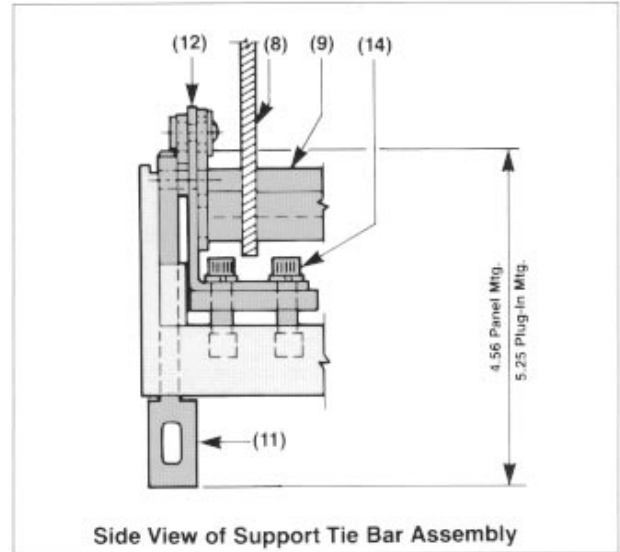
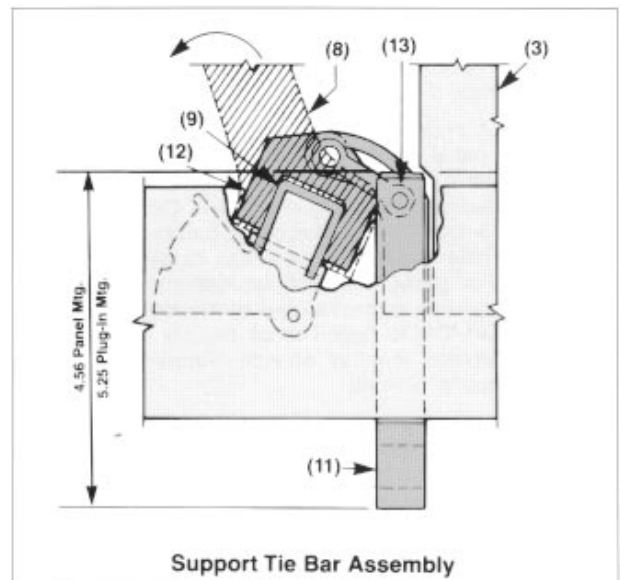

Figure 2
Figure 3
- A. With 9-in. long tie bar wrench (8) supplied (Figures 2 and 3) positioned around left pole tie bar connector (9), pull tie bar connector back in direction of arrow (away from trip unit) and drop safety wood block (10) with 1-in. dimension into gap between tie bar connector and trip unit on right pole. Wood block should come to rest snugly on the two socket head cap screws as shown in Figure 4. Remove wrench.
- B. Two sets of plungers are provided. Select proper length of plunger (11) (Figures 2 and 3) for desired application and discard the pair of plungers not used. Position support tie bar assembly from top and insert plunger through rectangular opening in base from bottom of base. Tie bar member (12) must fit around tie bar connector (Figure 3). It may be necessary to gently tap tie bar member down to achieve snug fit.
- C. Plunger locator pin (13) (Figure 3) of link assembly should face toward outer edge of breaker and must engage hole in plunger. Once this engagement is achieved, tighten two 5/16-18 socket head cap screws (14) to 140 in. lb. (Figure 2).